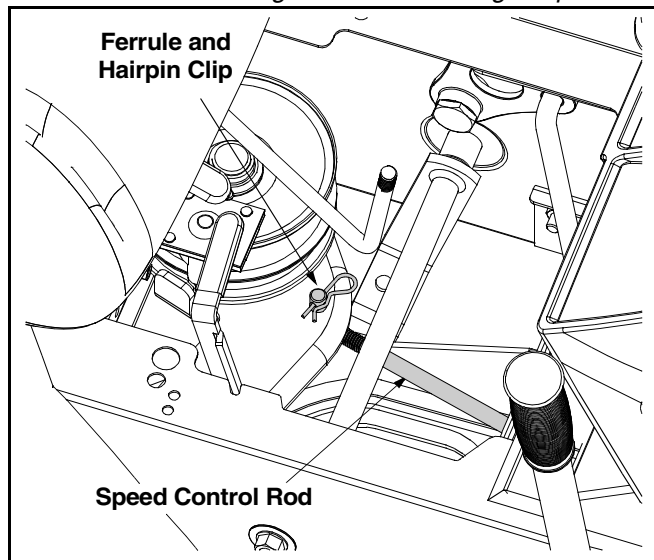

Figure 18
- Remove the shift cover panel and locate the speed control rod. See Figure 18.
- Remove the hairpin clip which secures the speed control rod's ferrule to the speed bracket. See Figure 18.